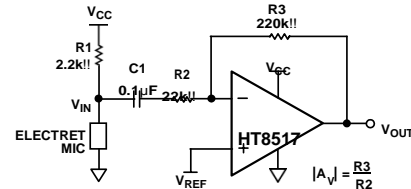

Figure 28. A Microphone Preamplifier
The HT8517 is ideal to use as a microphone preamplifier. Figure 28 shows this implementation.
Figure 28 illustrates a 1.8 V transmit/receive telephone line interface for 600 Ω transmission systems. It allows full duplex transmission of signals on a transformer-coupled 600 Ω line in a differential manner. Amplifier A1 provides gain that can be HT-justed to meet the modem output drive requirements. Both A1 and A2 are configured to apply the largest possible signal on a single supply to the transformer. Amplifier A3 is configured as a difference amplifier for two reasons: (1) It prevents the transmit signal from interfering with the receive signal and (2) it extracts the receive signal from the transmission line for amplification by A4. A4's gain can be HT-justed in the same manner as A1's to meet the modem's input signal requirements. Standard resistor values permit the use of SIP (Single In-line Package) format resistor arrays. Couple this with the HT8517/HT8527's 5-leHT SOT-23, 8-leHT MSOP, and 8-leHT SOIC footprint and this circuit offers a compact solution.